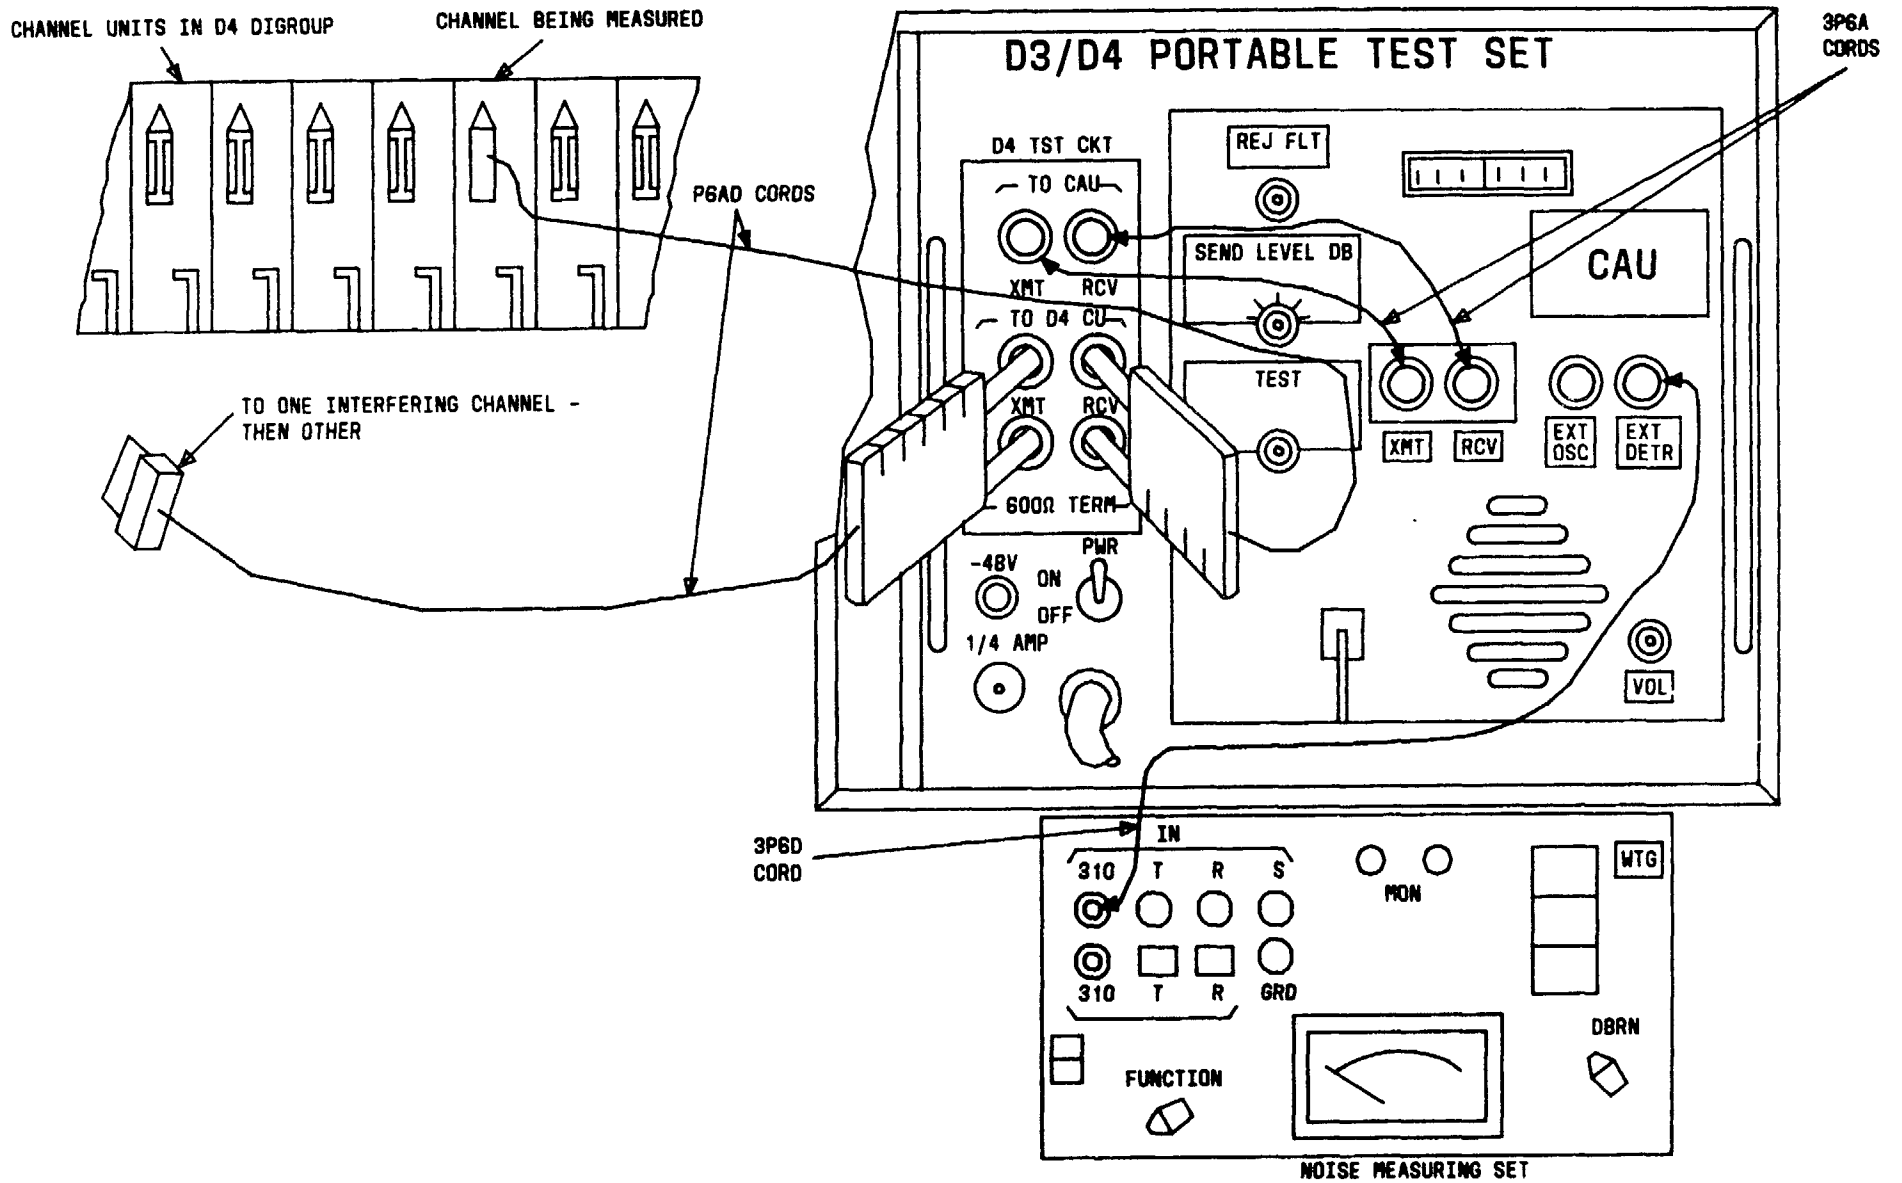

FIG. 1
- [16] Make test connections per FIG. 1, Page 5 to channel being measured
Loop bank by inserting pin plug in appropriate LP jack at LIU and insert pin plug into R CODE jack on RU. Remove TPU and make connections per FIG. 1. Adjust receive attenuators in channel unit for  $-3.0 \pm 0.1$  dBm